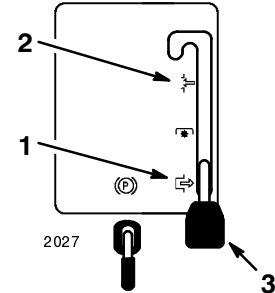

Figure 9
4. Move the blade control (PTO) to “DISENGAGED” (Fig. 9).